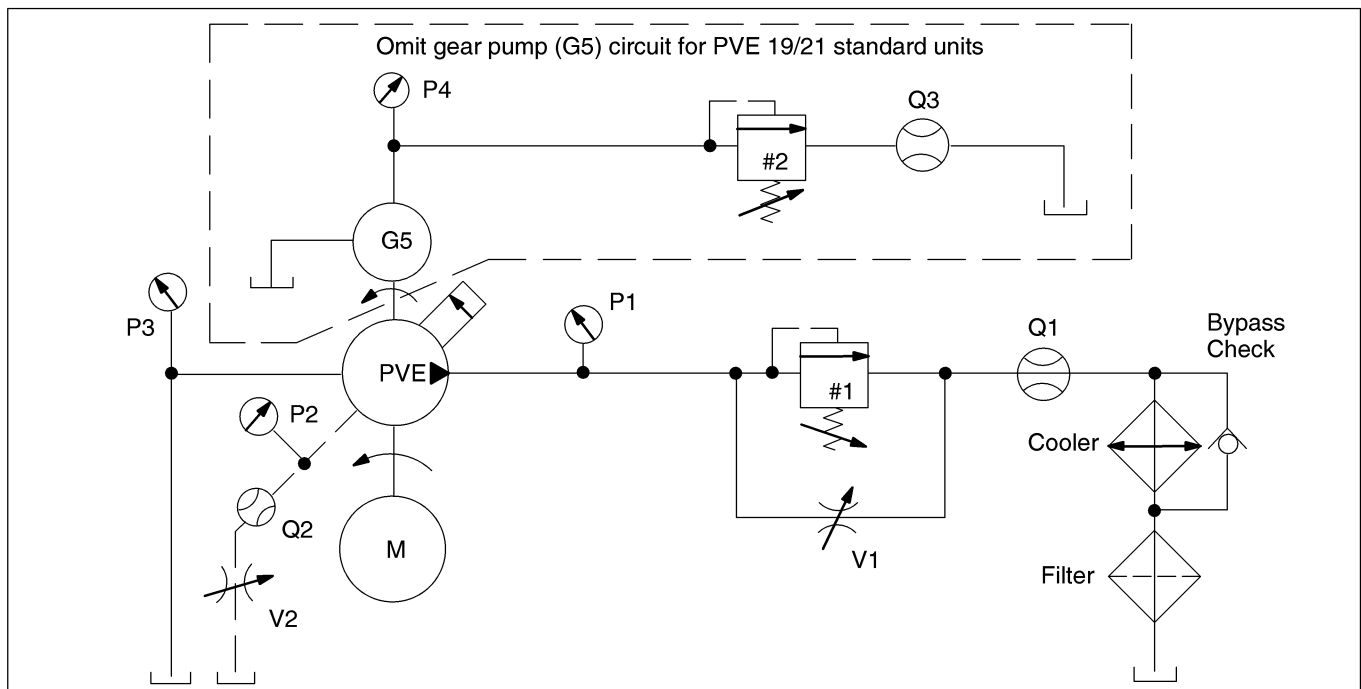
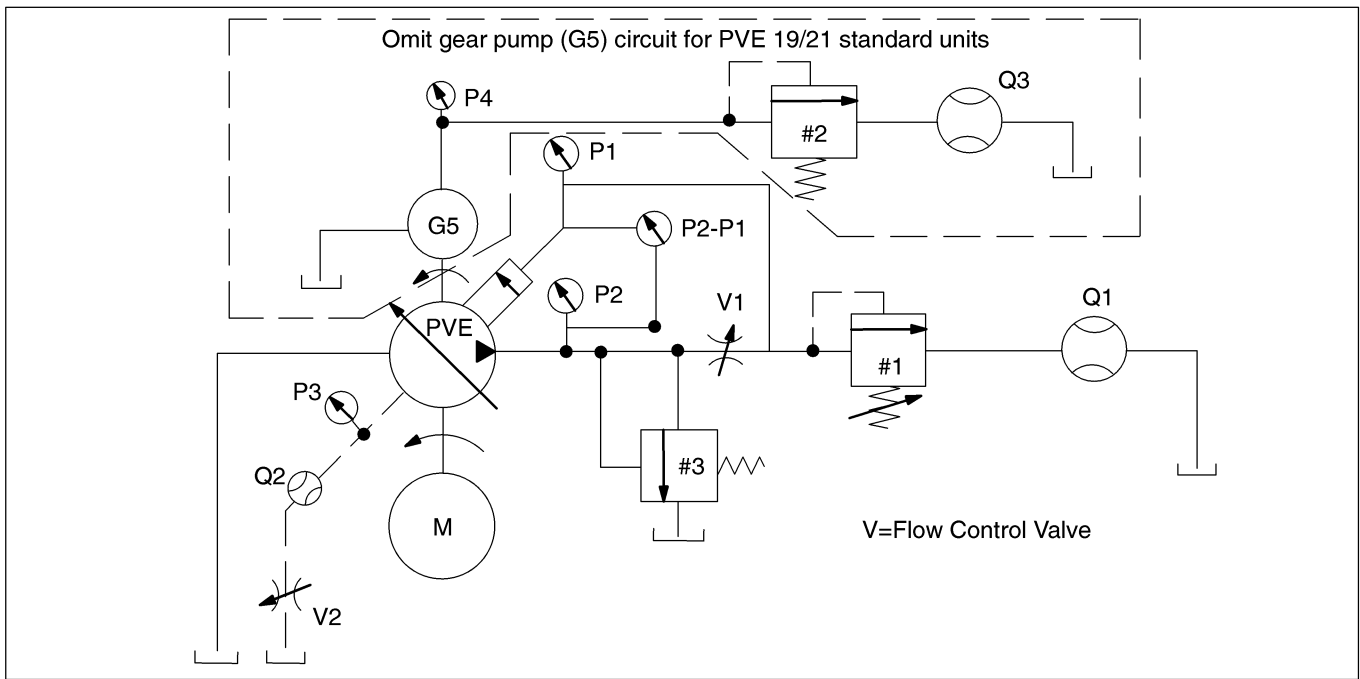

Figure 23. Circuit Diagram for "C" and "CG" Control.
Figure 24. Circuit Diagram for “CV”, “CVP”, and “CVPC”.
Install unit as shown in test circuit diagram with case drain up. Use the correct circuit diagram for the unit: Figure 23–PVE 19/21 (G)–*–**–C/CG–1*. Figure 24–PVE 19/21 (G)–*–**–CV/CVP/CVPC units.
1. Adjust load valve one (1) and globe valve one (1), Figure 23, for exactly 100 Psig as read at gauge P1. The unit must meet the following requirements at full stroke, and 1200 RPM. See Table 4. Record the flows obtained.
2. Close globe valve one (1) and readjust load valve one (1) to system pressure shown in Table 5. Read Psig at gauge P1.
4. Back off compensator adjustment screw until approximately 0.060 inches of threads are exposed. Close load valve one (1) and globe valve one (1). The pressure as read at gauge P1 must not exceed 250 Psig.
2. Refer to Figure 23 and adjust load valve (1) and globe valve (1) to 100 PSI system pressure at P1. Observe maximum pump flow and maximum case leakage requirement noted in Table 4.
Refer to Figure 24 for location of circuit components.